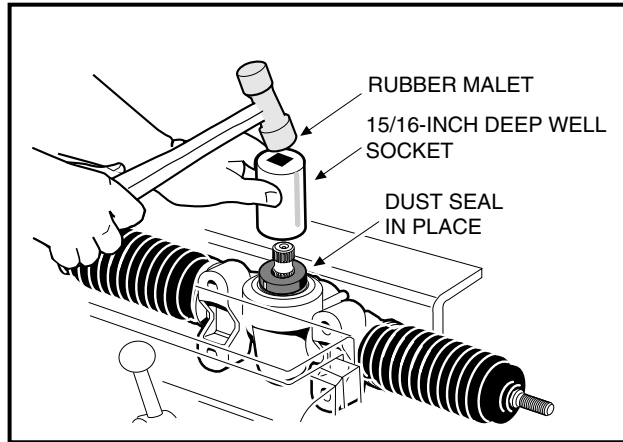

Figure 7-21 Press In Dust Seal
4. Install the snap ring (4).
5. Use a socket to apply pressure evenly and press in a new dust seal (**Figure 7-21, Page 7-12**).